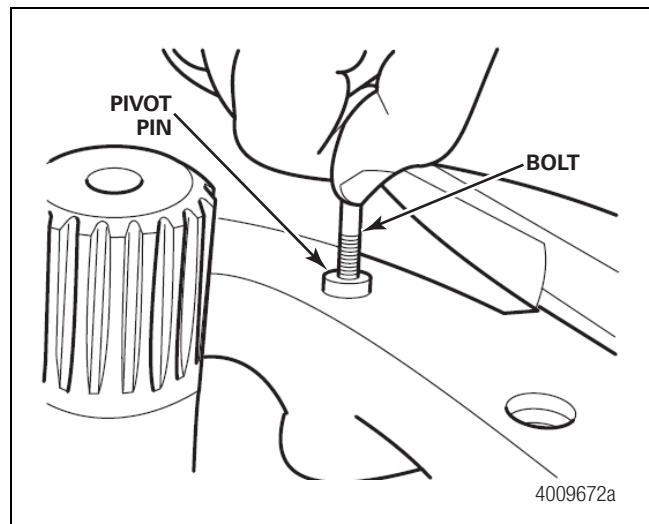

Figure 6.4
2. Thread an extractor bolt (M6 x 1.0) into the pivot pin and withdraw it from the carrier. Figure 6.4.